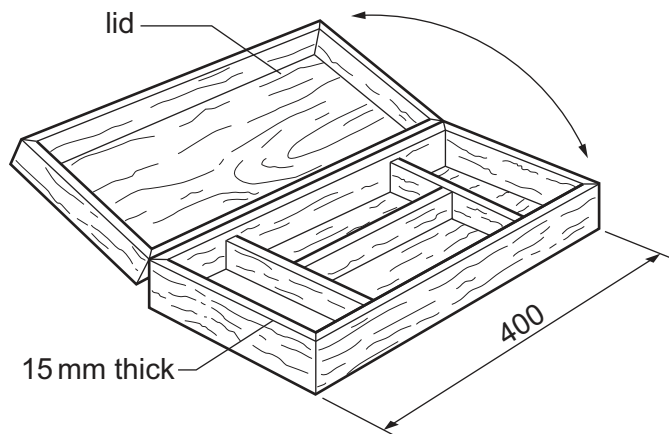

Figure 9.1
- 9 Figure 9.1 shows a box made mainly of softwood.